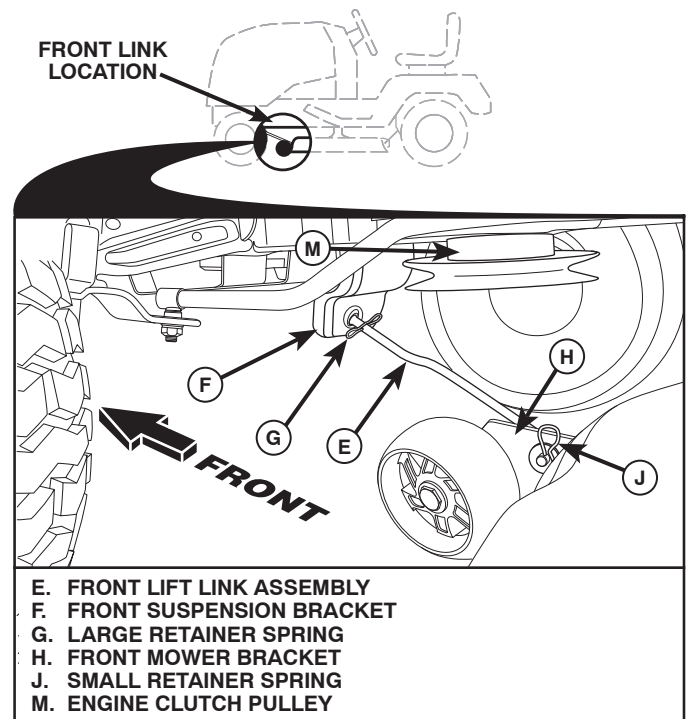

Fig. 14
## 8. ATTACH FRONT LINK (E) (See Fig. 14)
- From front of tractor, insert rod end of front link (E) through front hole in tractor front suspension bracket (F).
- Move to left side of mower and insert large retainer spring (G) through hole in front link (E) behind front suspension bracket (F).
- Insert other end of link (E) into hole in front mower bracket (H) and secure with washer and small retainer spring (J).